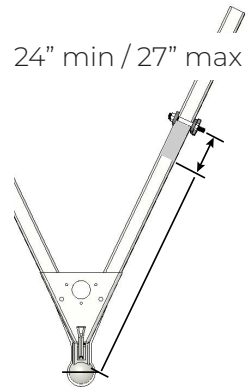

Figure 6
1. Install the bracket assemblies between 24" — 27" from the center of the coupler. (Figure 6) This range should allow you to avoid most obstructions on the trailer tongue like battery supports or propane tanks.